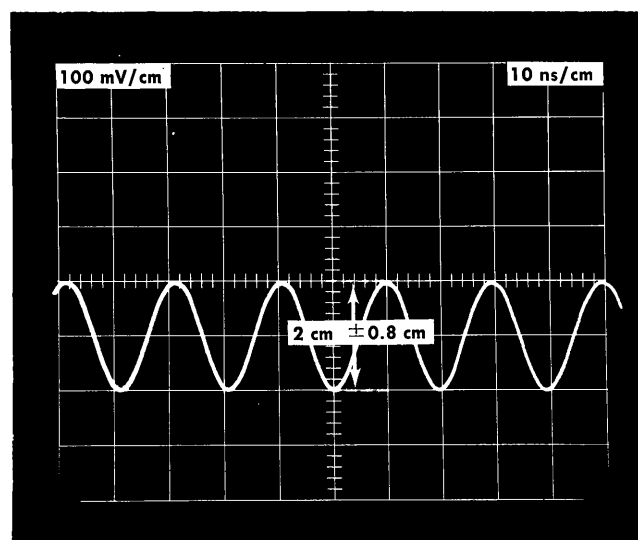

Fig. 6-22. Typical display for step 13 showing Sine Wave Trigger Output signal.
d. Check that the sine wave trigger amplitude is within  $2 \text{ cm} \pm 0.8 \text{ cm}$ , ( $200 \text{ mV} \pm 40\%$  peak to peak). See Fig. 6-22.